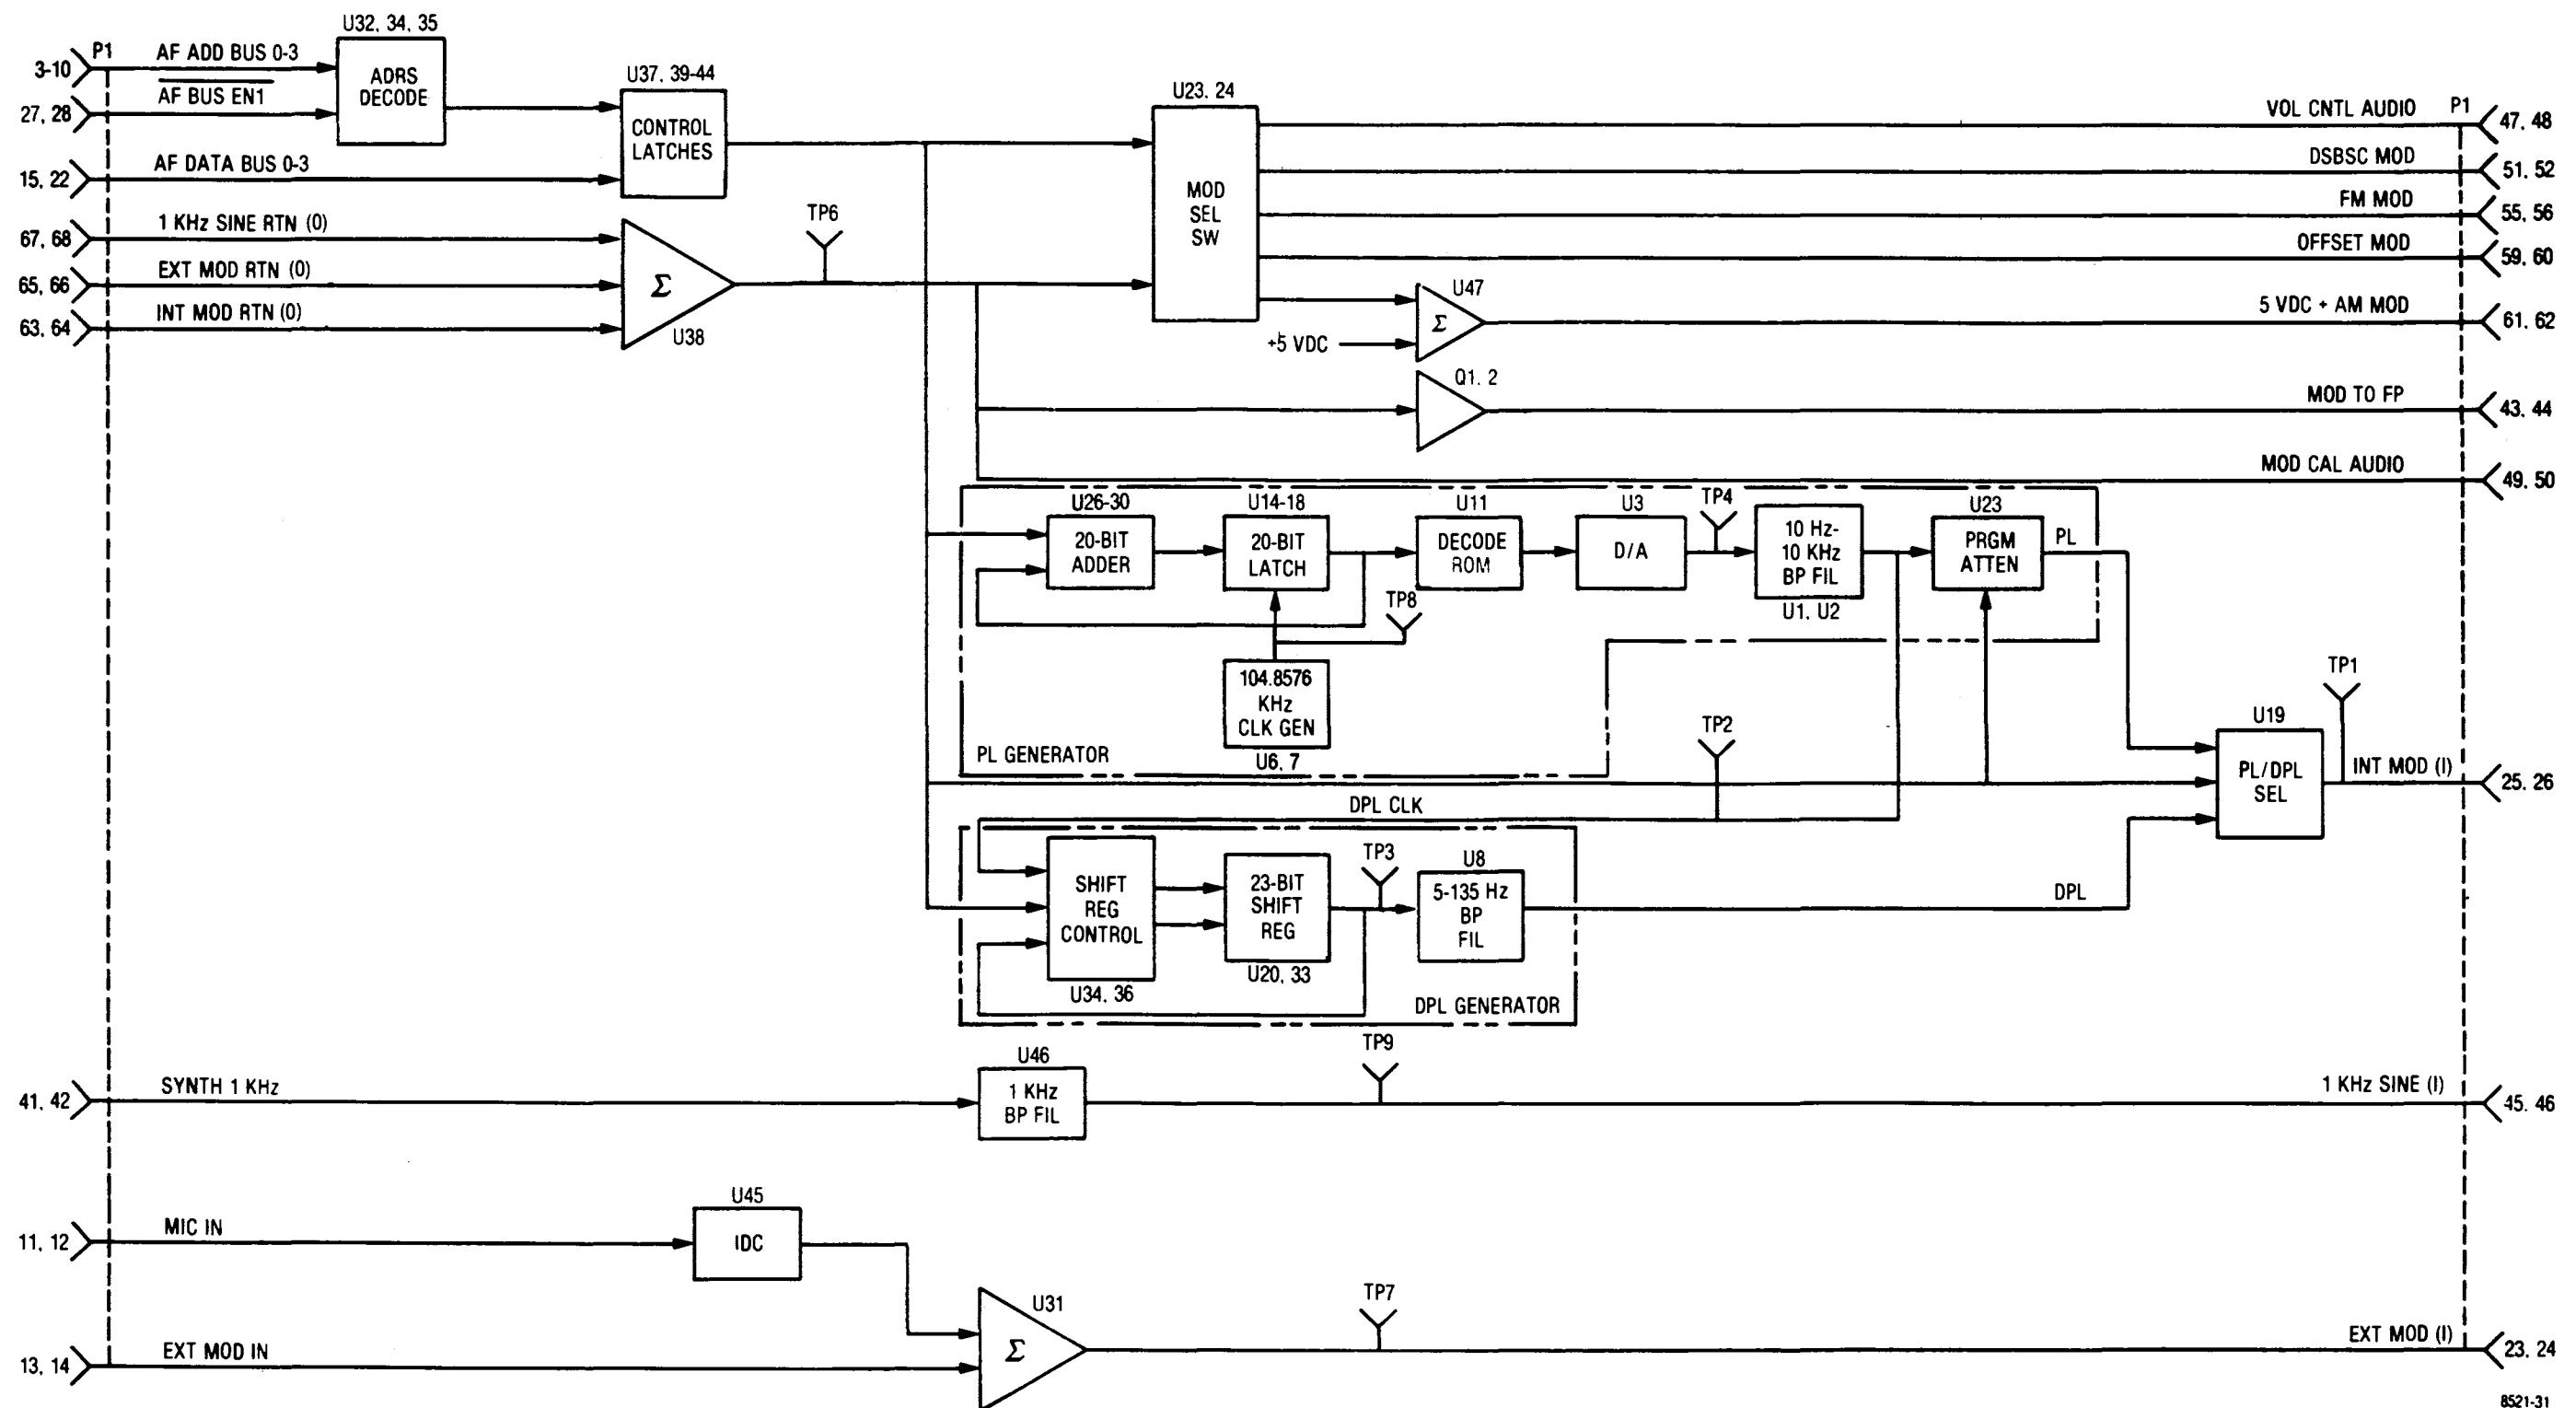

Figure 12-1. Audio Synthesizer
**12-1. General.** Generation, processing, and control of modulation audio is the function of the Audio Synthesizer module. Three modulation signals, private line, digital private line, and a fixed 1 kHz, are generated on the board. Processing for external microphone and BNC jack audio inputs as well as summation of all modulation sources to form a composite source is provided. Switching of the composite source to the appropriate modulator completes the function of the Audio Synthesizer. A block diagram of the Audio Synthesizer is shown in figure 12-1 with its schematic in figure 12-2.